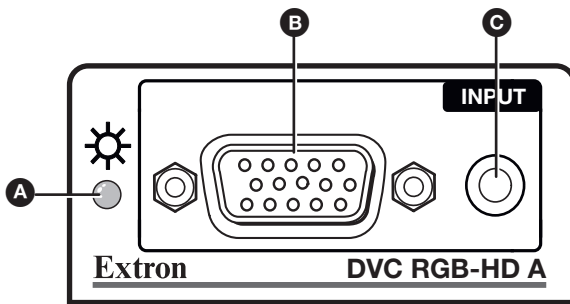

Figure 1. DVC RGB-HD A Front Panel
- 3. Connect the input** — Connect an RGBHV source to the front panel VGA input connector (see figure 1, B, on the previous page).